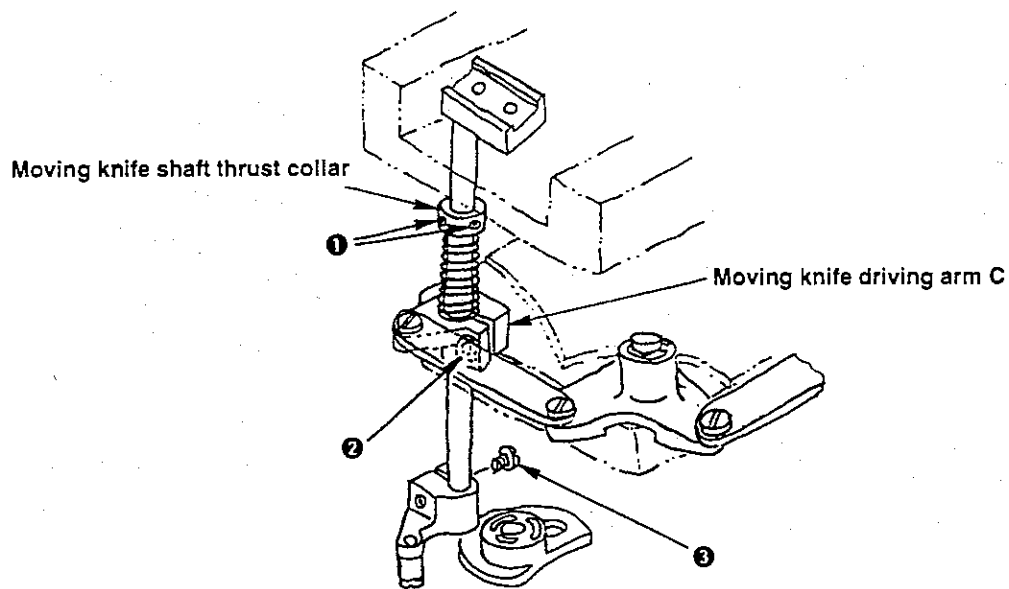

Fig. 2
<p>Height of the moving knife (For the left-hand side hook)</p> <ol style="list-style-type: none"> 1. Tilt the machine head. 2. Loosen the screws (2 pcs.) ❶ in the moving knife shaft thrust collar and the screw ❷ in the moving knife driving arm C. (Fig. 2) 3. Loosen the screw ❸ in the moving knife driving arm A. (Fig. 2) 4. Adjust so that a clearance of 0.3 to 0.4 mm is provided between the moving knife and the bobbin case by moving the moving knife shaft up and down. (Fig. 1) 5. Tighten the screws (2 pcs.) ❶ in the moving knife shaft thrust collar. 6. Tighten the screw ❷ in the moving knife driving arm C and the screw ❸ in the moving knife driving arm A. (Refer to "Moving knife driving arms A, B and C" on page 35.) 	<p>If the clearance provided between the moving knife and the bobbin case is too large :</p> <ul style="list-style-type: none"> • The needle thread and bobbin thread may fail to be caught by th knife. <p>If the clearance provided between the moving knife and the bobbin case is too small :</p> <ul style="list-style-type: none"> • The moving knife may interfere with the bobbin. <p style="text-align: center;">(In the standard adjustment, the machine has been designed so that the moving knife slightly comes in contact with the bobbin.)</p>